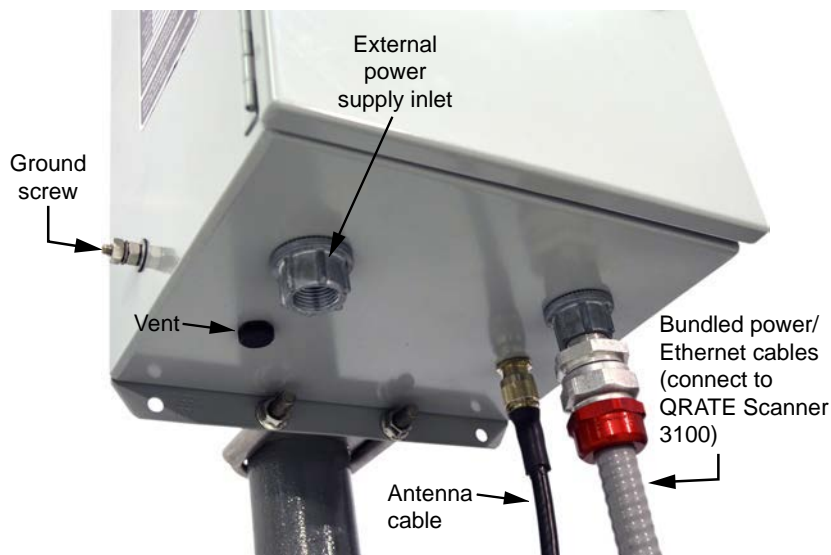

Figure 4.4—Exterior of WiFi box showing location of connectors and external ground screw
2. Connect a ground wire to the external ground located on the bottom left side of the WiFi box (Figure 4.4, page 73).
- a. Connect the black antenna cable to the antenna connection located on the bottom of the box behind the Ethernet connection hub as shown in Figure 4.4, page 73.
- a. Thread the external power supply wires through the conduit hub on the bottom of the WiFi box (Figure 4.4, page 73).